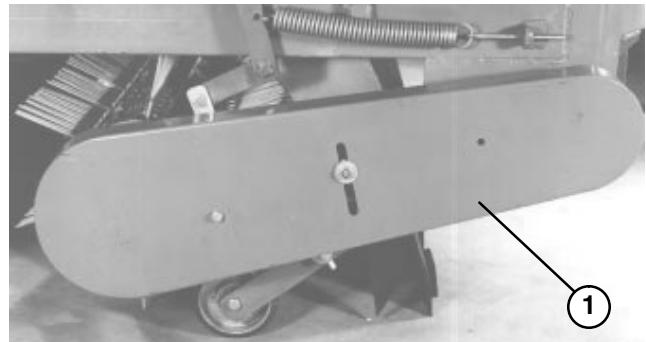
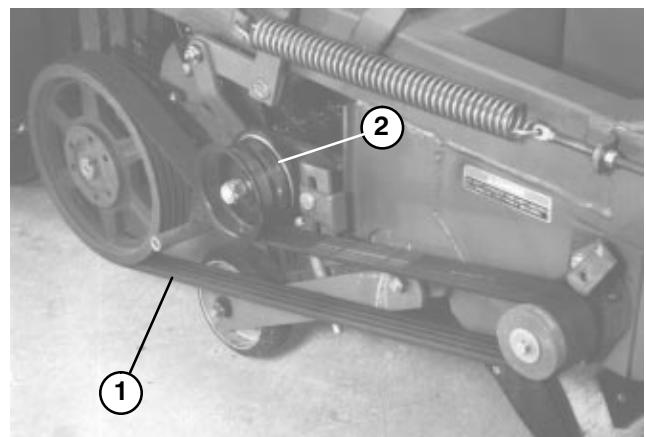

Figure 38
Figure 39
Reel Drive Belt (Fig. 38–39)
- A. Remove (2) capscrews, nut, retaining nut and washer securing lower belt guard to frame (Fig. 38). Remove guard.
- B. If belt has too much slack, loosen idler pulley nut (Fig. 39), press down on idler pulley until desired tension is obtained and retighten idler pulley nut.
- C. If belt is too tight, loosen idler pulley nut (Fig. 39), pull upward on idler pulley until desired tension is obtained and retighten idler pulley nut.
3. Remove lower belt guard (Fig. 38) and reel drive belt (Fig. 39).
4. Remove (2) capscrews, lockwashers and nuts securing reel shaft bearings to reel support arms on each side of sweeper. Lower flex tip reel to the ground.
1. Remove lower belt guard (Fig. 38) and reel drive belt (Fig. 39).